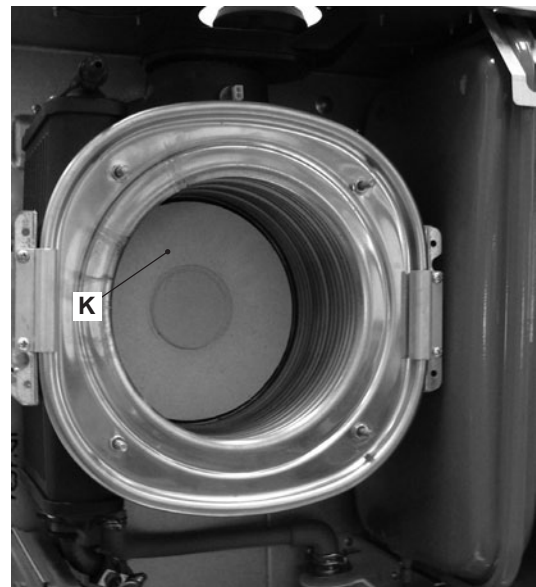

Figure 18.7
- 2 Remove the insulation K by pulling it towards the boiler front (Hung it with a screwdriver tip) (Figure 18.7).